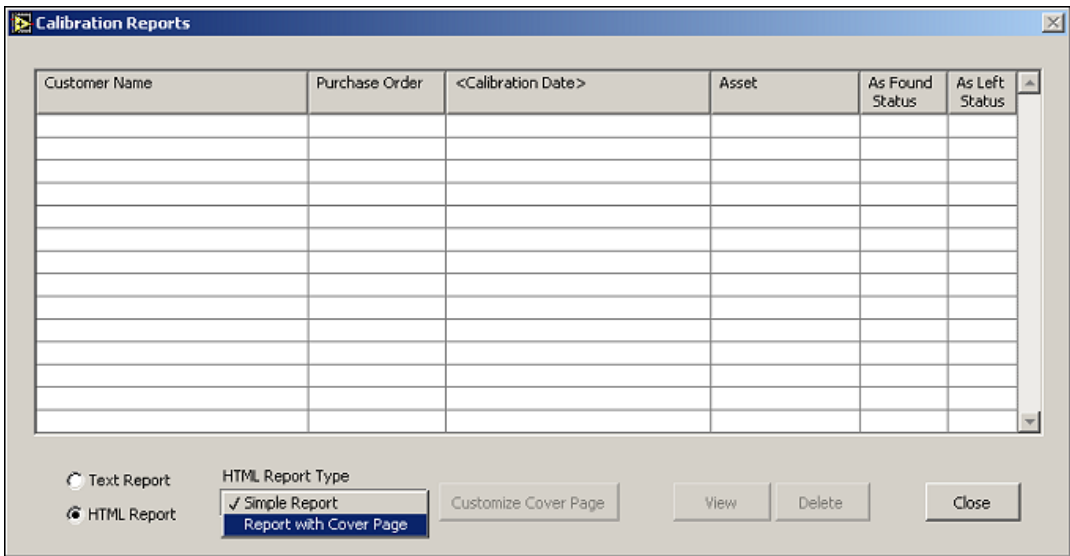

Figure 2-13. Calibration Reports Dialog Box
1. Select **View»Reports** from the main menu. The Calibration Reports dialog box appears, as shown in Figure 2-13.